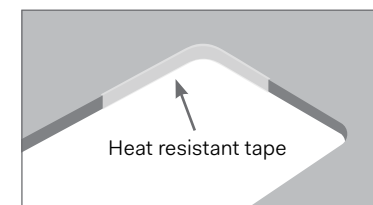

Fig.10
- Ensure the aluminium heat tape extends up the cutout edge and over the surface of the benchtop enough to run past the outside edge of the cooktop flange. (see Fig. 10)